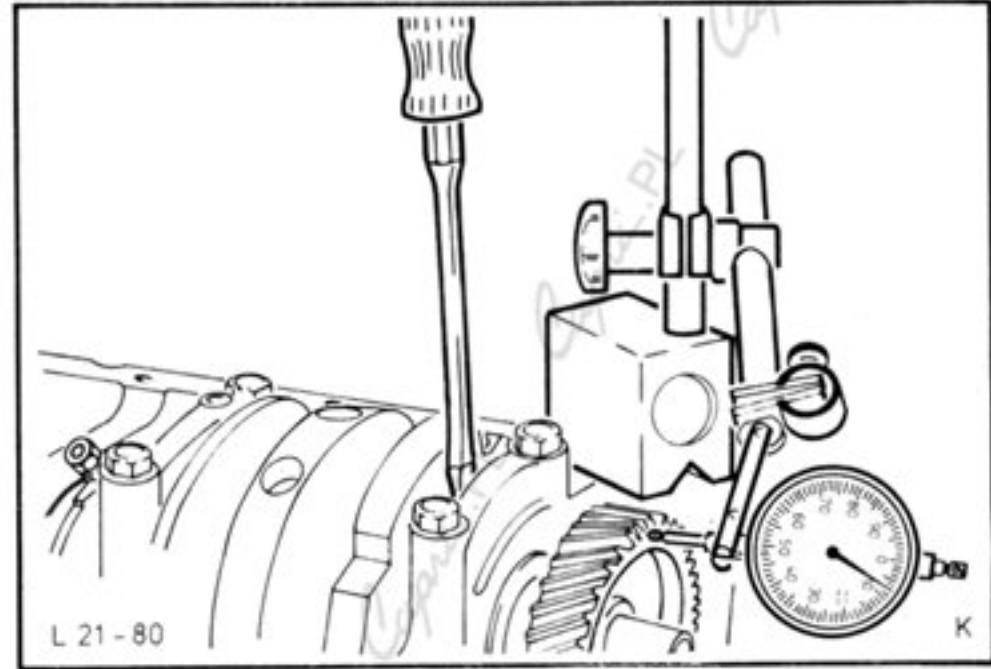

Fig.52. Check crankshaft end-float.
38. Check crankshaft end-float (see Technical Data) with a dial gauge, Fig.52, and correct if necessary with flanged bearing shells.